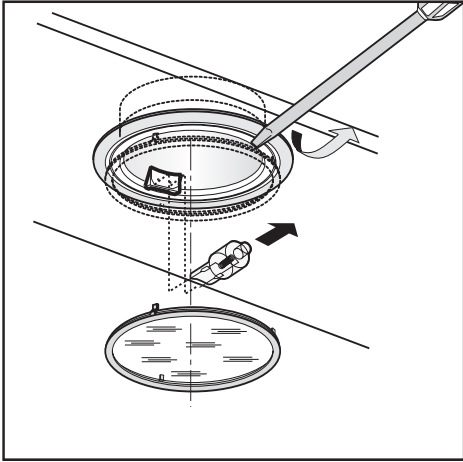

Fig.7
• Replacing halogen light bulbs (Fig. 7).